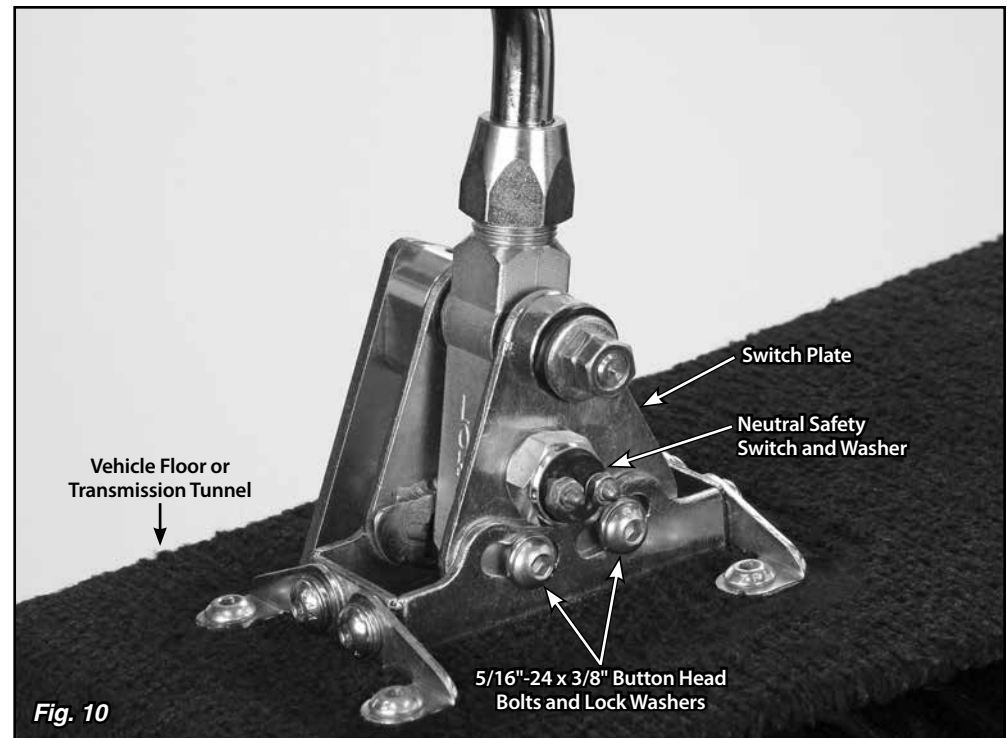

Fig. 10
**Step 15:** Remove the neutral safety switch and washer (**Fig. 10**) from the passenger side of the Shifter using a 7/8" wrench or socket.
**Step 16:** Loosen, but do not remove, the two 5/16"-24 x 3/8" button head bolts and lock washers that attach the passenger side of the floor mount mounting bracket to the switch plate (the bolts are in curved, slotted holes). **Fig. 10**